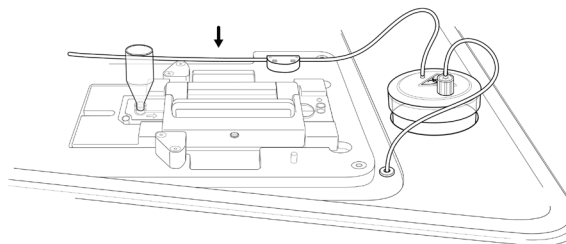

Fig. 26. Add the assembled slide station.
1. Add the assembled slide station(s) to the Genesis (Figure 26).